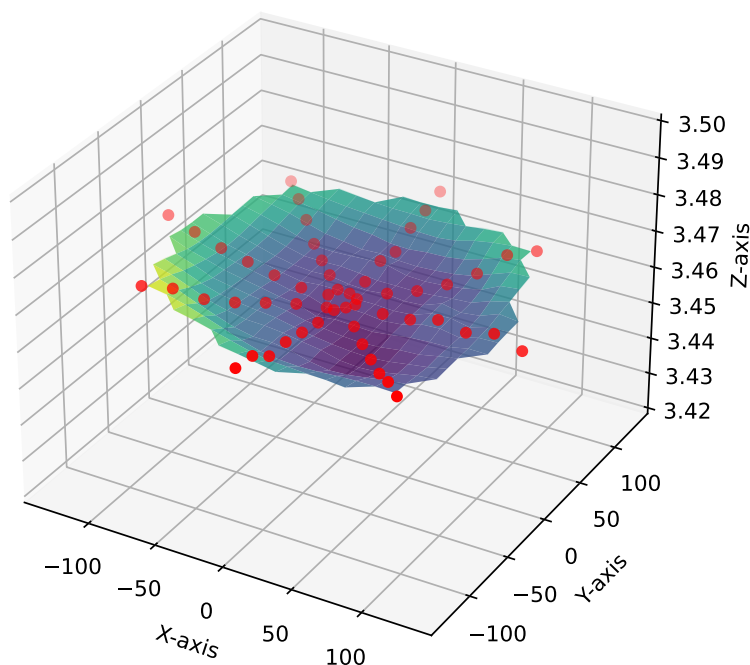

Figure 8: 3D surface plot with the meshgrid interpolation
Figure 9: Line profiles at different directions: (a) 0, (b) 90, (c) 45 and (d) -45 degrees tilted from X-axis. The data are from the grid data used for surface plot shown in Fig.8.
**\*NOTE:** The result shown in Figure 8 and Figure 9 are obtained through data interpolation.